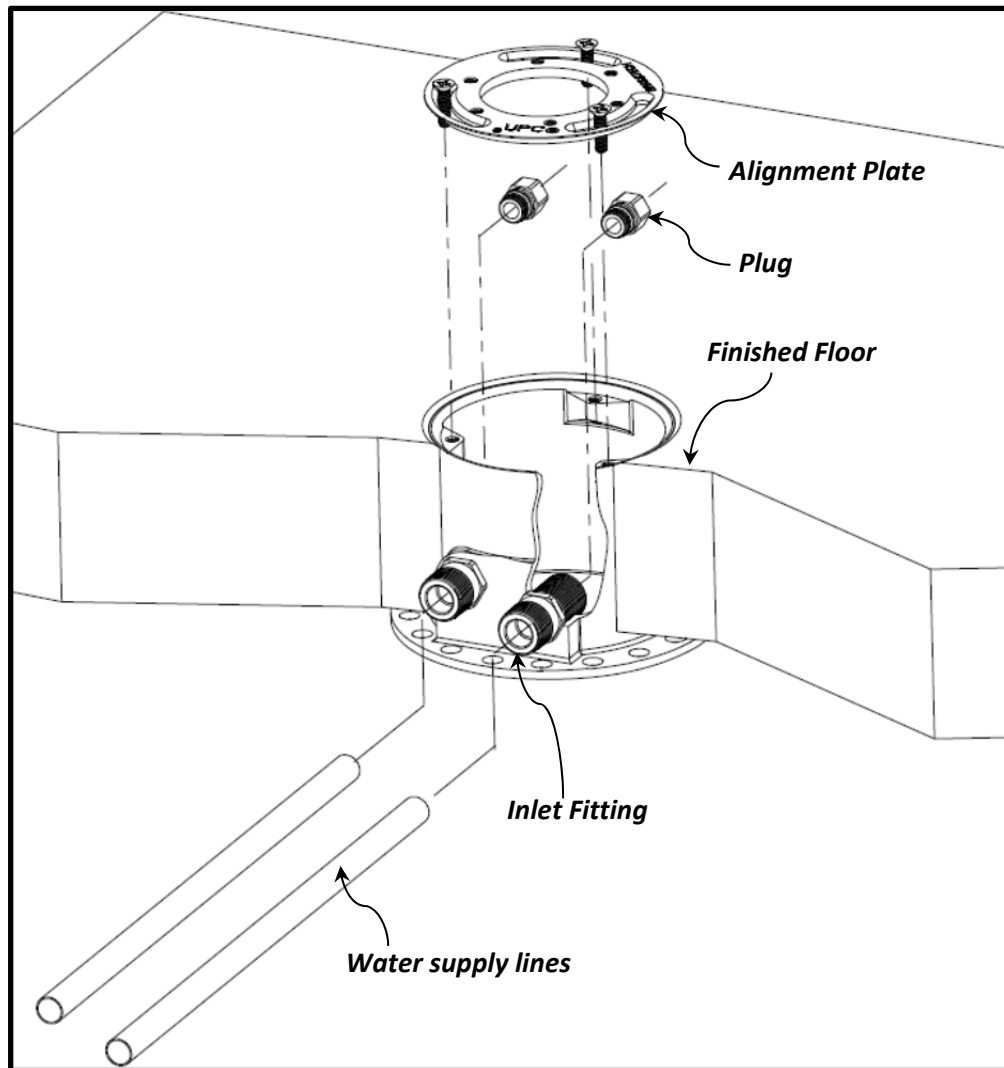

Figure 3: Concrete Floor Installation
1. As shown in **Figure 3**, position the rough so that the top surface of tub filler Rough-in Kit is flush or 1/4" higher than the Finished Floor. Orient the Inlet Fittings of the Rough-in Kit facing to the water supply source. Ensure the top surface of the Rough-in Kit horizontally leveled.